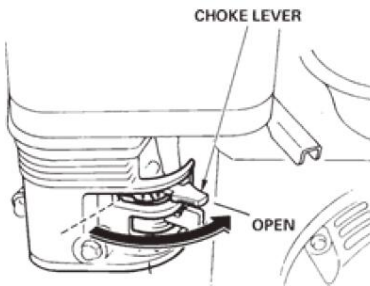

FIG.8
9.4 Place the choke lever (FIG. 8) in the "OPEN" position if starting a warm engine or the temperature is warm.